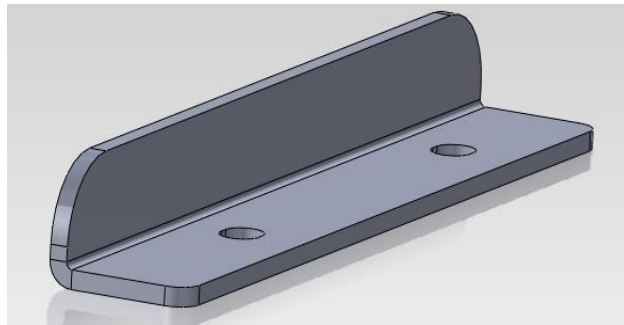

Figure 1
2. Locate the angled hold down bracket (Figure 1). Set the bracket atop the ATV's frame (opposite side of the plastic underbody guard) and align the two holes in the bracket with the two holes in the ATV. With the holes aligned, the 'L' portion of the bracket should face the rear.